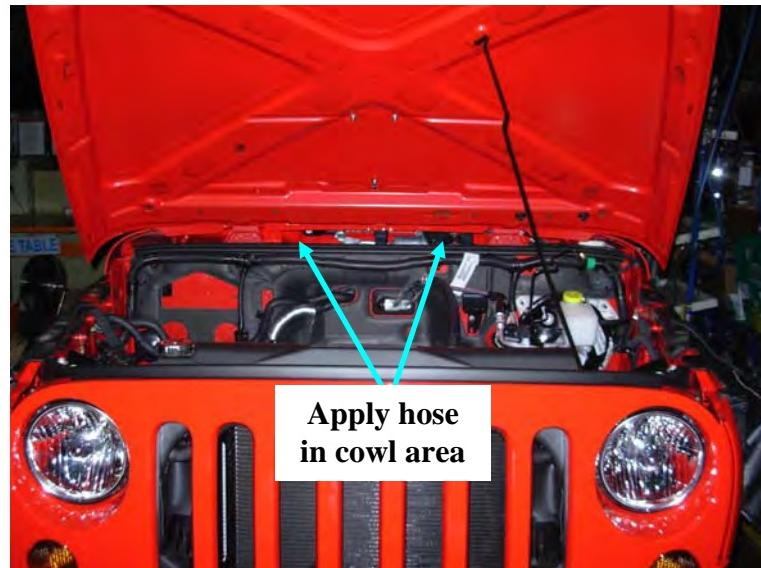

Figure 47
**NOTE:** These leaks can be diagnosed by applying a hose in the cowl panel (Figure 47).